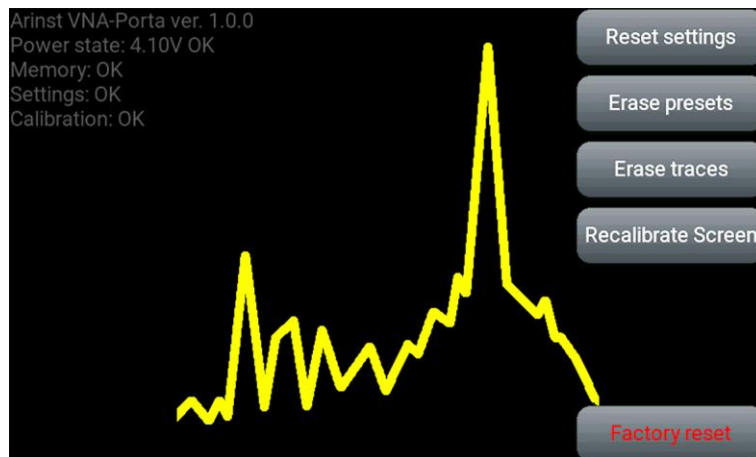

Figure 13.2 - Menu of device settings reset
13.2. The reset menu will appear on the device screen (Figure 13.2).